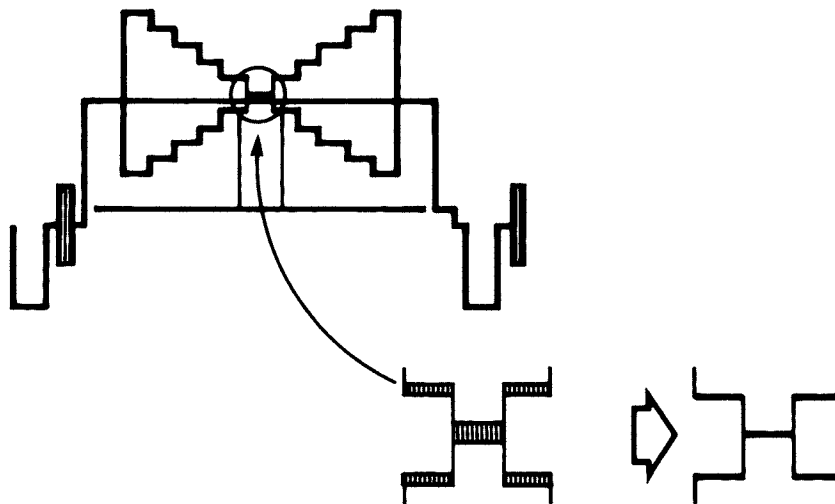

Figure 5-43. Minimum Carrier Leak Adjustment
STEP 3 Observe encoded output at MONI OUT on the waveform monitor. Adjust R242, R442 (R, B PRE GAMMA ADJ) for minimum carrier leak in middle portion of gray scale (see Figure 5-43).